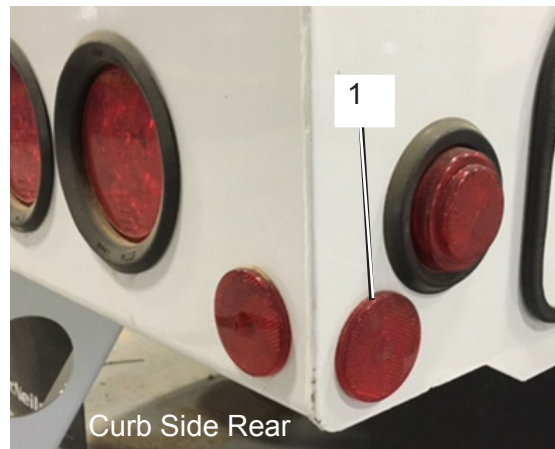

Figure 5
2. Install that reflector on the curb side facing, rear corner of the CNG tailgate (Figure 5), as close to the rear corner as practical.